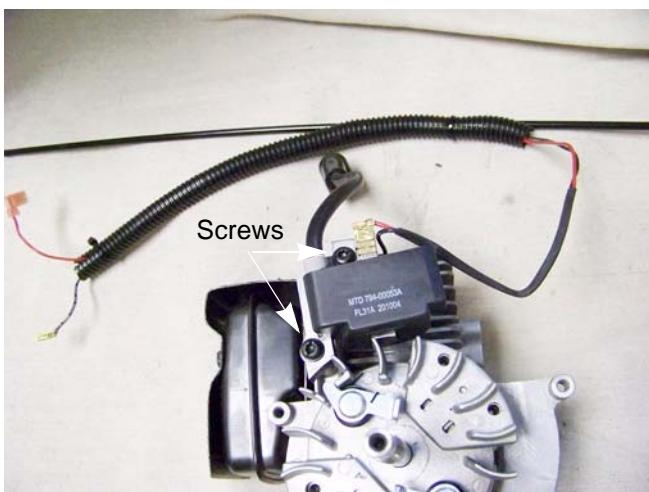

Figure 8.4
6. Remove the two screws that secure the ignition module to the block using a T-20 torx driver. See Figure 8.4.